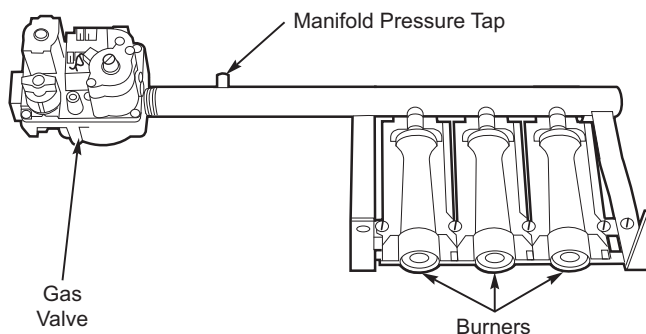

Fig. 54 — Burner Tray Details
10. Slide the burner tray out of the unit (see Fig. 54).
2. Remove manifold pressure tap plug from manifold and connect pressure gauge or manometer. (See Fig. 54.)
11. Turn off unit, remove pressure manometer and replace the manifold pressure tap plug. (See Fig. 54.)